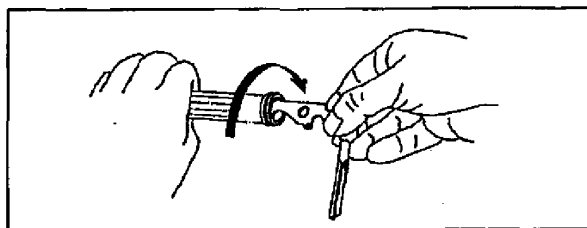

Figure 071-312-4025-18. Cleaning the gas cylinder's front interior
(2) Clean the internal grooves on the front side of the gas cylinder as previously described (using the protruding tips of the scraper), but insert the scraper farther into the gas cylinder (figure 071-312-4025-19).